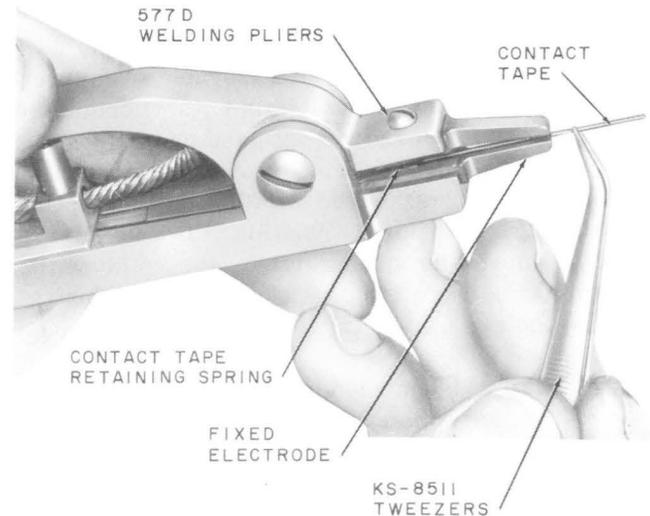

Fig. 5—Positioning Contact Tape in 577D Welding Pliers
4.17 577D Welding Pliers (For Contacts on Movable Spring): Grasp the contact tape approximately 1 inch from one end with the KS-8511 tweezers. Then, while holding the welding pliers with the electrode jaws fully open, place the flat surface of the contact tape in the groove in the fixed electrode with the beaded surface of the tape toward the movable electrode. Insert the tape under the retaining spring as shown in Fig. 5. Push the tape inward with the tweezers until its end is flush with the end of the electrode. Then, using the tweezers as pliers, press the tape against the electrode so it lies flat in the groove. If difficulty is encountered in properly seating the tape in the groove, remove the tape and bow it slightly with the beaded surface on the outside of the bow. If the pliers are not to be used immediately, make sure the pliers are latched in the open position.